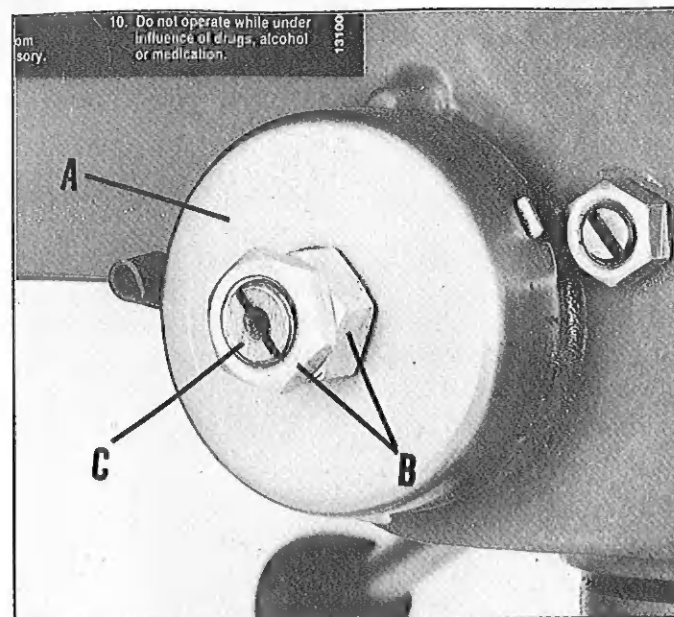

Fig 32
For the purpose of automatically returning the spindle upward after a hole has been drilled, a spindle return spring is provided in the spring housing (A) Fig. 32. This spring has been properly adjusted at the factory and should not be disturbed unless absolutely necessary. To adjust the return spring, proceed as follows:
2. Loosen the two nuts (B) approximately $\frac{1}{4}$ ". Do not remove nuts (B) from shaft (C) Fig. 32.